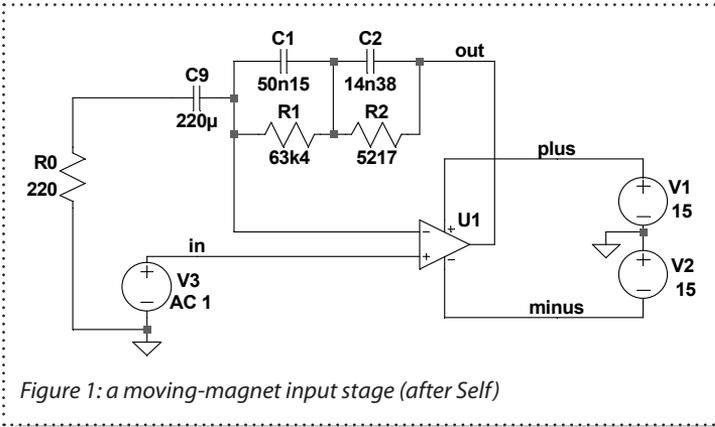

Figure 1: a moving-magnet input stage (after Self)
Consider the moving magnet preamp circuit shown in figure 1. The passive component values are taken from Doug Self’s book on small signal audio design (ref.1, p170). This configuration is widely used, though rarely engineered with the thoroughness that is Doug’s trademark. The single-stage RIAA pre-amp is perhaps seen as a bit “old hat” in the audiophile community, where multistage designs are common. These rarely match the technical performance of a single stage design built with good active components, but they have their adherents. When I was selling op-amps, of course I was never upset that a customer would decide to use two or three to do the job of one. The component